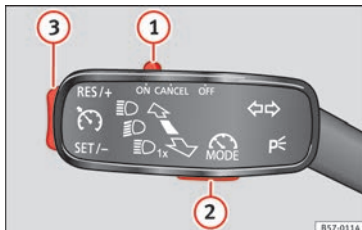

Fig. 185 On the left of the steering column: control and buttons to operate the speed limiter.
If you wish to temporarily switch off the speed limiter, e.g. to overtake, move control » Fig. 185 ① of the turn signal lever into position **CANCEL** or the third lever into pressure point **CANCEL** or press button ② on any lever.